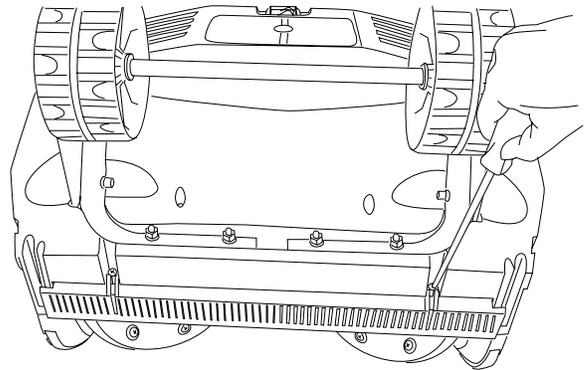

Figure 26
- Install the new scraper bar and fasten it securely to the snow thrower with 2 screws (Fig. 26).